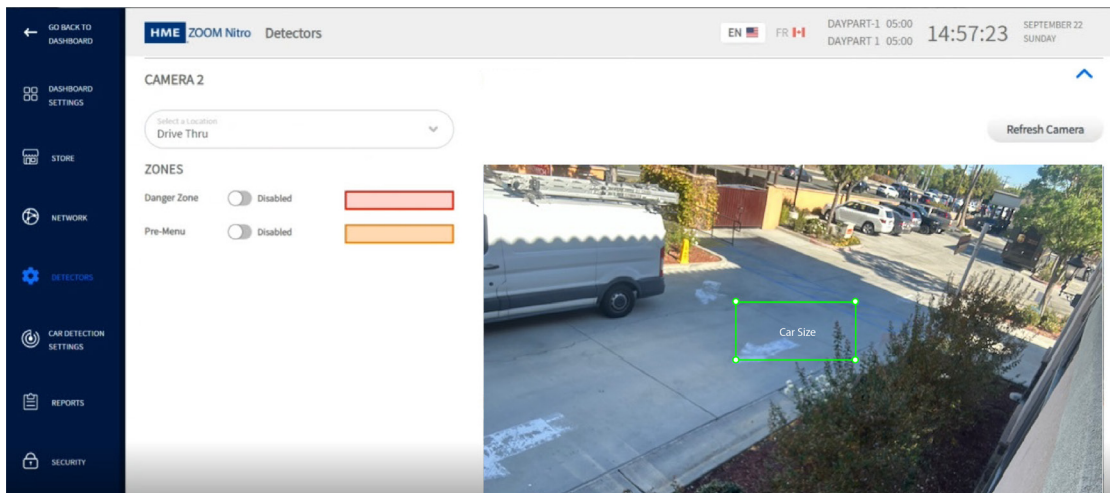

Fig. 18
5. With the Camera Preview now displayed (Fig. 18), determine if the view is good enough to draw zones. If not, the camera angle will need to be adjusted. After each adjustment use the “Refresh All Cameras” button for the preview image to update to the new angle.